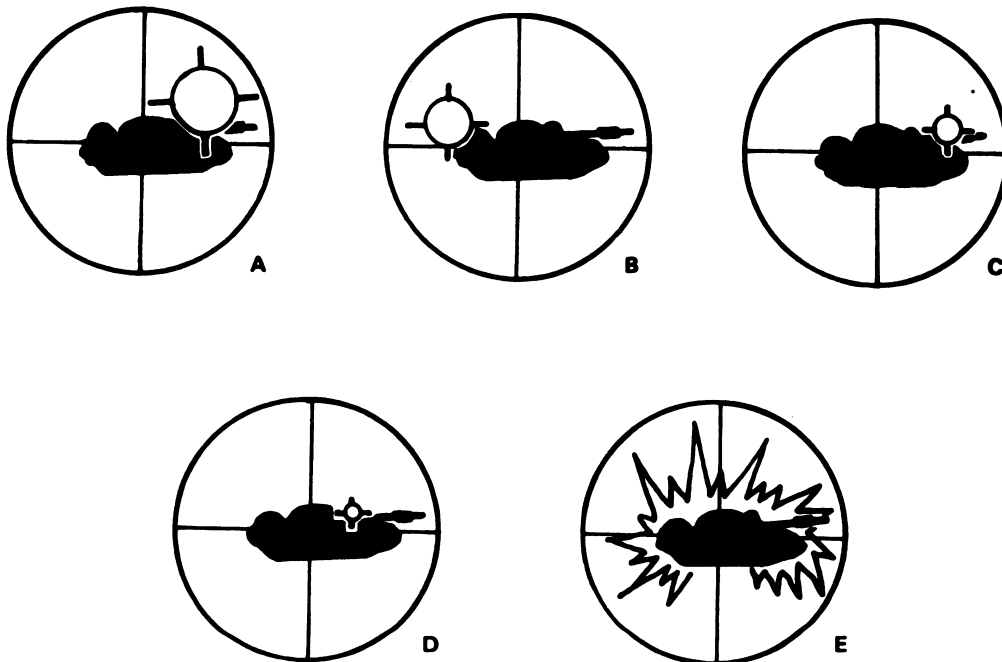

Figure 3
(1) Take a deep breath and let part of it out just before pressing the trigger. Proper breath control is particularly important during the first and last 400 meters of missile flight. Improper breathing will cause you to track poorly.
(2) Once the trigger is pressed, there is a 1.5-second delay before the missile is launched. This delayed firing of the launch motor can cause you to flinch or jerk the control knobs if you aren't prepared for it.
(3) There are two noises you should be prepared for once you press the trigger:
(4) One effect caused by the firing of the launch motor (other than noise) that can be distracting is the backblast. The dust, smoke, heat, and debris from the backblast may cause you to flinch.
(5) When the missile appears in the sight picture (fig. 3), ignore it. Never try to fly the missile. If you are distracted, your tracking becomes poor, and your chances of hitting the target are reduced. Continue to track the target at a smooth tracking rate keeping the crosshairs on the center of visible mass until missile impact.